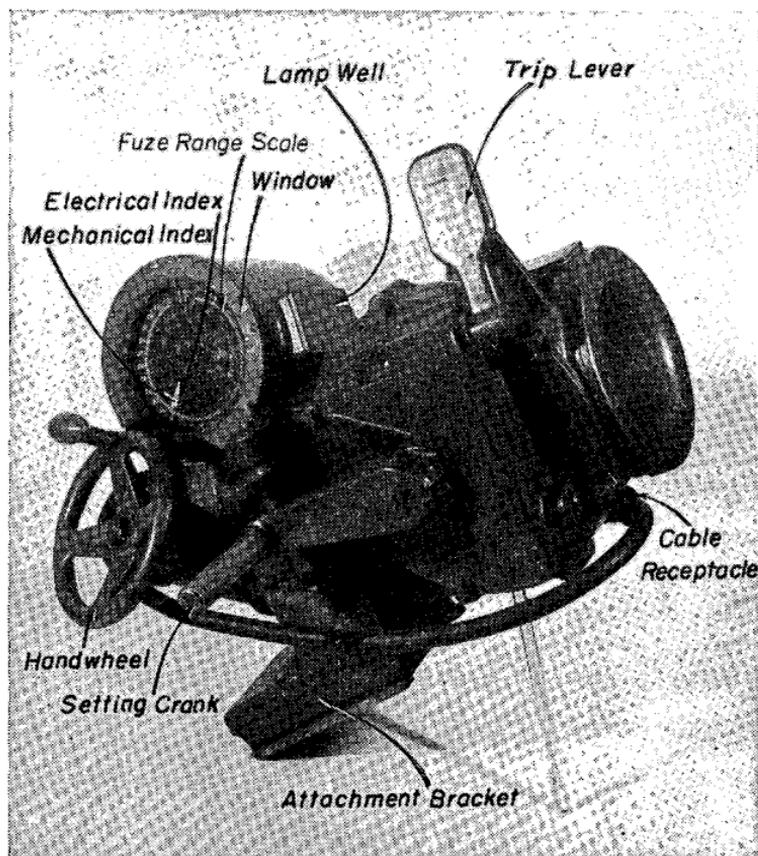
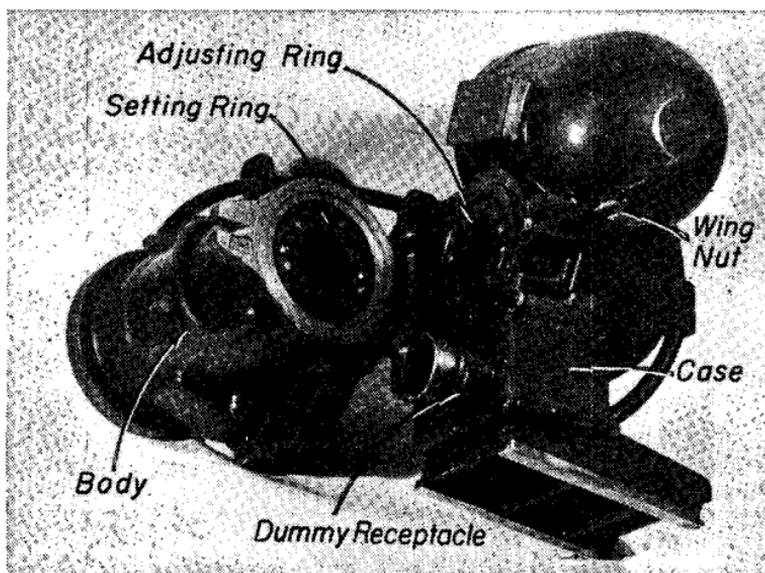

FIGURE 14.—M8 fuze setter.
FIGURE 15.—M8 fuze setter opened for inspection.
■ 70. DESCRIPTION.—*a.* The fuze setter consists principally of the fuze indicator, the adjusting mechanism, and the setting mechanism. The indicator and adjusting mechanisms are enclosed within the case (fig. 15) while the setting mechanism is housed within the body.
*c.* The *adjusting mechanism* is that mechanism which causes the fuze to be set for the particular fuze setting desired. A handwheel (fig. 14) is geared both to the mechanical index on the scale and to an adjusting ring (fig. 15) whose function is to engage and hold fast the lug or slot on the setting element of the fuze on the projectile. By turning the handwheel the mechanical index is made to indicate a particular fuze setting, and the adjusting ring is revolved to such a position that its pawls will stop the setting element on the fuze at the same fuze setting that is indicated by the mechanical index.
*d.* The *setting mechanism*, driven by the setting crank (fig. 14), contains a setting ring (fig. 15) which engages the lug or slot on the body of the fuze and turns the projectile until the fuze body is properly positioned with respect to the setting element of the fuze.
■ 73. To CHANGE RINGS IN FUZE SETTER.—*a.* Open the fuze setter as shown in figure 15, remove the screws and the lock washers in each ring already assembled in the fuze setter, and remove this set of rings. If the rings stick in place in the fuze setter after the fastening screws have been removed, insert the screws into the tapped holes in the rings and pull the rings loose. Select from the accessory chest the proper set of rings to be used; then assemble the adjusting ring to the adapter in the case or lower portion of the fuze setter, and the setting ring to the socket in the body or upper portion.
*h.* Whenever the cable receptacle (fig. 14) is not connected to the gun junction box, it should be stowed on the dummy receptacle with the cable wrapped around in front of the fuze indicator.